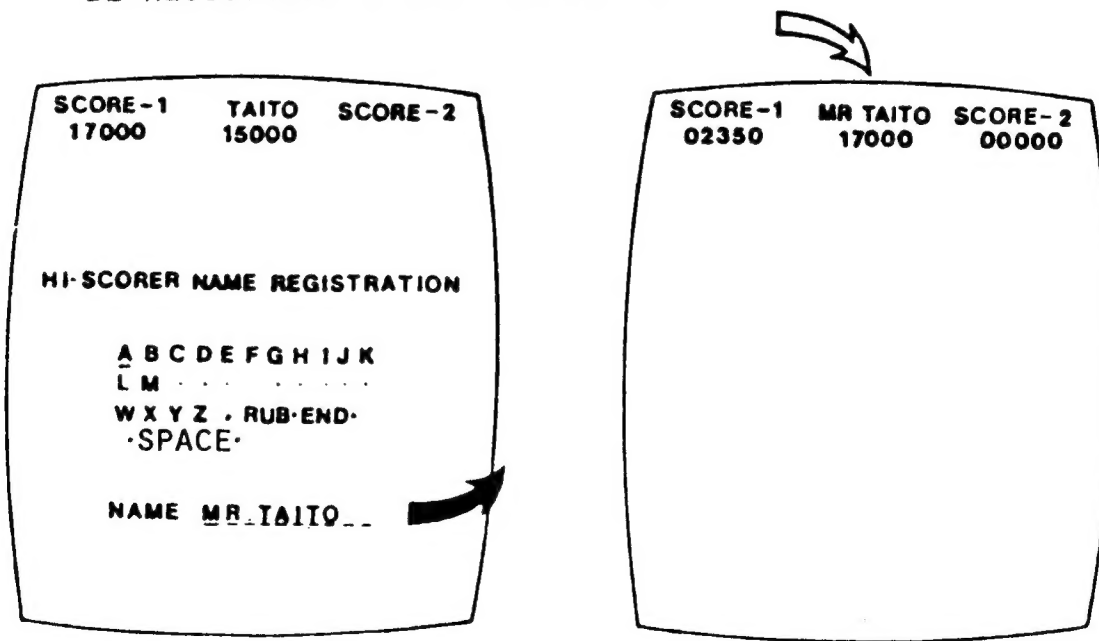

FIGURE -3-
3. THE HIGH SCORER'S NAME REGISTER MUST BE PERFORMED WITHIN ONE AND ONE HALF MINUTES. AFTER ONE AND ONE HALF MINUTES HAVE PASSED, THE REGISTRATION WILL BE AUTOMATICALLY ENDED. (IN TOTAL, TEN LETTERS CAN BE REGISTERED). SEE FIGURE -3-.